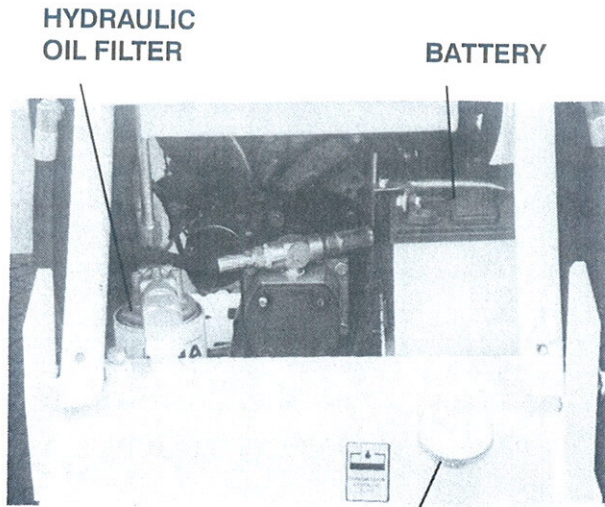

FIGURE 25
2. Remove the oil cap, see **Figure 25**, and check the level. If oil is apparent, the level is satisfactory.
1. With the engine stopped, unscrew and remove the old oil filter, see **Figure 25**.